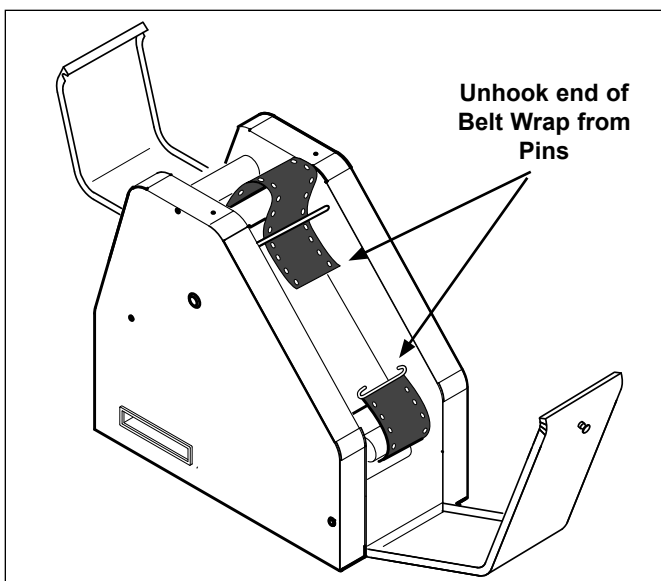

Figure 11. Disconnecting Belt Wraps
7. Locate the Connecting Pin on both Belt Wraps (rotate belts by hand if necessary). Disconnect the ends of the Belt Wraps by sliding one end of the Belt off the pin (Figure 11).